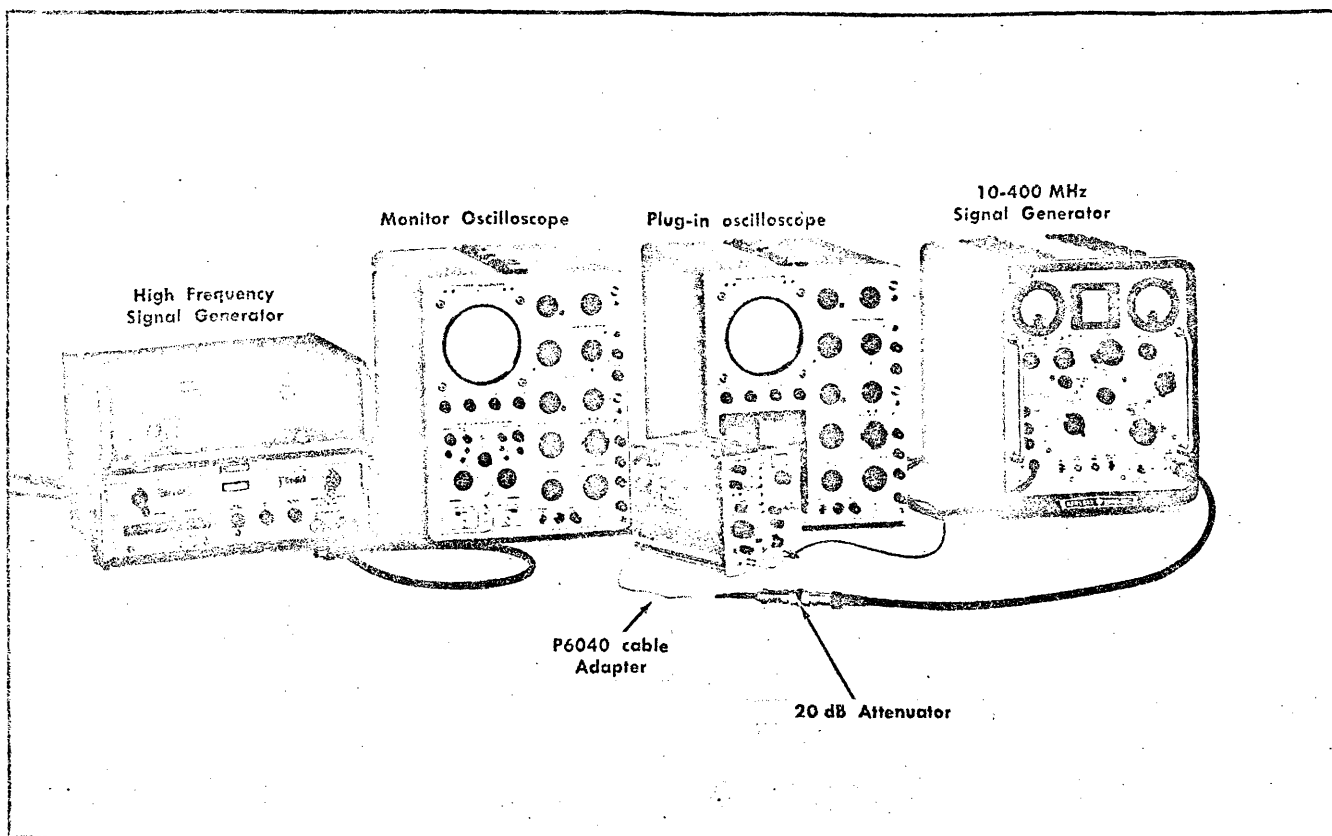

Fig. 6-25. Equipment setup to adjust the RF Mixer, the wide band IF amplifier and check response flatness (steps 16 and 17).
- Equipment setup is shown in Fig. 6-25.
- a. Equipment setup is shown in Fig. 6-25.